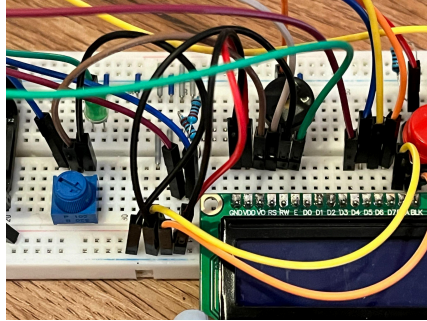

Fig 5. 16x2 LCD Display
- The LCD should be powered by connecting the pins VSS, RW, K to ground, and the pins VDD, V0, A to the VOUT (5V) positive power rail. V0 should be connected to the positive power rail through a variable resistor. The variable resistor can be tuned to alter the adjust the character's display contrast. Connections to the pocket beagle for data transmission involve connecting GPIO pins 60, 52, 57, 60, 89, 87 to pins RS, E, D4, D5, D6, D7 on the LCD, respectively. (Fig 5)